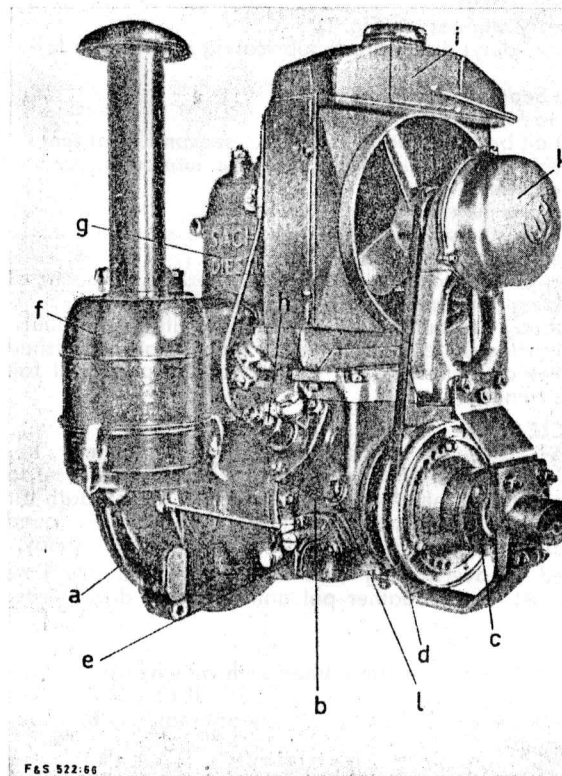
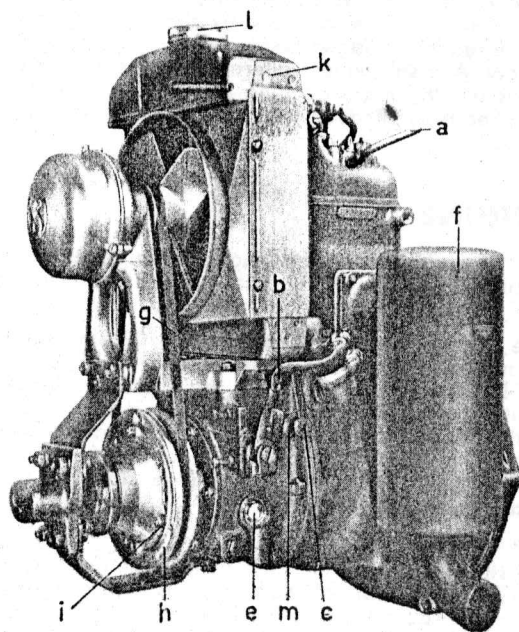
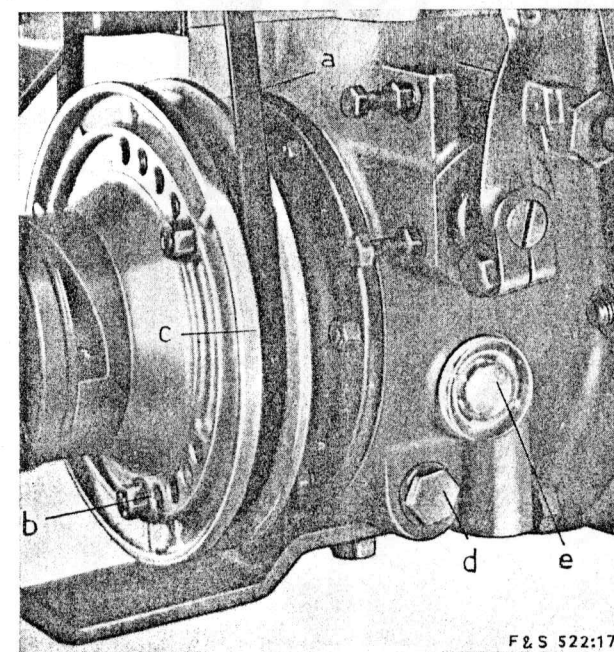

Fig. 5:
Fig 6:
Fig. 8:
a) With starting crank (Fig. 5)
b) With starter pulley (Fig. 6)
The **unit head** b (Fig. 5) carries all the auxiliary equipment of the engine (governor, driving mechanism for fuel injection pump and oil pump). For lubricating these components the unit head is filled with 0.5 litre (1 pint) of oil. This oil is **not** in communication with the lubrication system of the crankcase and the main driving components it contains. Hence the oil in the unit head is hardly used up. The level of the oil can be checked by means of the oil level glass e (Fig. 6) on the left-hand side of the engine. When the engine is running, the oil should be half-way up the glass.
On the unit head is mounted the radiator, while on the right-hand side facing forward (as seen when looking directly at the flywheel) are the fuel injection pump h (Fig. 5) and, below the latter, the lubricating oil pump e (Fig. 5) for the main driving components of the engine. In addition to the driving mechanism for the above-mentioned auxiliary equipment, the governor for regulating the engine speed is accommodated within the unit head. Conveniently positioned on the left-hand side are the hand control lever b (Fig. 6) and the starting knob c (Fig. 6) with the smoke stop m (Fig. 6).
Oil from the tank flows to the oil pump e (Fig. 5), which is a plunger pump driven through spiral gearing. The delivery rate of the pump is pre-set at the Factory. The pump keeps the two crankshaft bearings supplied with fresh lubricating oil. The oil emerging from these bearings runs into annular channels in the crank webs. These channels communicate with an oilway in the crankpin through which the oil is fed by centrifugal action to the big-end bearing. The oil thrown off the big-end bearing lubricates the cylinder bore.
Cooling system. The engine is water-cooled. The water circulates automatically as long as the radiator k (Fig. 6) is kept filled to the top.
The filler cap l (Fig. 6) should close the radiator so tightly as to enable a certain pressure to build up inside the radiator. If the pressure exceeds a given value, a ball relief valve fitted in the radiator opens automatically and allows the steam to escape.
Fuel injection: From the elevated fuel tank the fuel passes through a filter which intercepts any dirt and contains a filter element a (Fig. 10) which should be renewed every 1000 running hours. From the filter the fuel flows to the Bosch injection pump h (Fig. 5). This pump can function satisfactorily only if the fuel fed to it is free from air bubbles. That is why the fuel tank should never be allowed to run dry, or else the fuel injection system will have to be air-vented.
The **crankshaft**, which is forged in one piece from high-grade steel, is provided at each end with a large parallel roller bearing. The split big-end bearing is of the steel-backed lead-bronze-lin lined type. The rear roller bearing (i. e., on the flywheel side of the engine) is mounted in a grey cast iron housing which is bolted to the flywheel housing. The flywheel housing is designed as a mounting flange by means of which the engine can be attached directly to the machinery it drives. The fuel filter is fitted to the flywheel housing. The front crankshaft bearing is mounted in the back wall of the unit head which closes the front of the crankcase. The crankshaft is provided with air- and oil-tight rubber seals, a single-lipped type at the crankshaft takes the form of a starter dog c (Fig. 5) which carries the pulley d (Fig. 5) for the fan belt and which is engaged by the starting crank.
3. **OIL LEVEL IN UNIT HEAD** can be constantly supervised by means of the oil level glass e (Fig. 8).
When the engine is not running, the oil should be level with the top of the glass. If it is found to be below this level, oil will have to be added: oil filler plug l (Fig. 5). Use H. D. oil of viscosity SAE 20 (in summer, SAE 40 may alternatively be used). As the oil in the unit head is in an enclosed space isolated from the atmosphere and from the combustion gases, it undergoes hardly any deterioration.
The oil change should therefore be done with the same frequency as the replacement of the filter element a (Fig. 10) in the fuel filter about every 1000 running hours. The old oil in the unit head is drained off by means of the screw plug d (Fig. 8) on the lower part of the unit head and 0.5 litre (1 pint) of new motor oil (viscosity SAE 20) is then poured in through the filler plug l (Fig. 5) up to the top of the oil level glass.
4. ADJUSTING THE FAN V-BELT (Fig. 8)
The tension of the V-belt (a) should be so adjusted that the belt can be deflected about 10 mm (about $\frac{3}{8}$ ") by pressing it with the thumb. If the belt can be deflected more than about 20—30 mm to $1\frac{3}{16}$ " in this way, it requires retightening. To do this, the three nuts b (Fig. 8) which hold the belt pulley together should be removed and the movable front cheek c (Fig. 8) of the pulley be pulled off. This cheek is then turned a distance of one hole in the clockwise direction (the direction of rotation of the crankshaft) and refitted. In order to avoid pinching the belt when reassembling the pulley, the bolts should be tightened one by one, each bolt being successively positioned vertically above the crankshaft and then tightened. When in this position, each bolt will pull together only that part of the pulley which is not enclosed within the loop of the belt. After turning the crankshaft a few times and simultaneously tightening the bolts in this way, the belt will have been forced outwards and have acquired the correct tension.